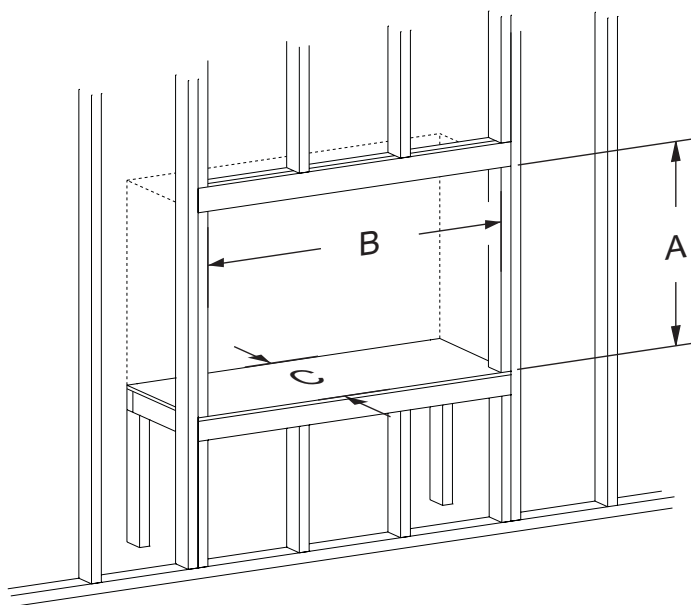

Figure 20 - Rough Opening for Elevated Installation
- Use Figure 20 for an elevated installation. Provide support to the bottom of the fireplace.